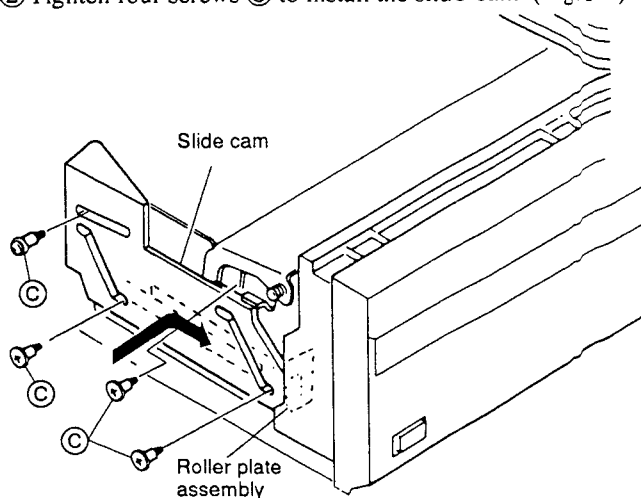

Fig. 18
- ② Tighten four screws (C) to install the slide cam. (Fig.18)